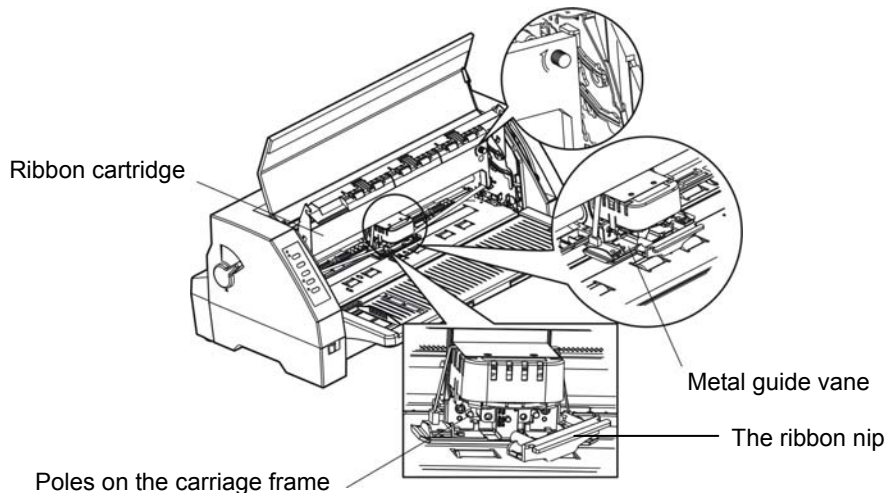

Figure 2-8 Installing the ribbon cartridge
7. Hold both sides of the ribbon cartridge; aim the locking buckle at the install groove, push it front way until you hear a sound of “kacha”. Then aim the ribbon guide frame at the two poles on the carriage frame, fix it with pressure as shown in Figure2-8.